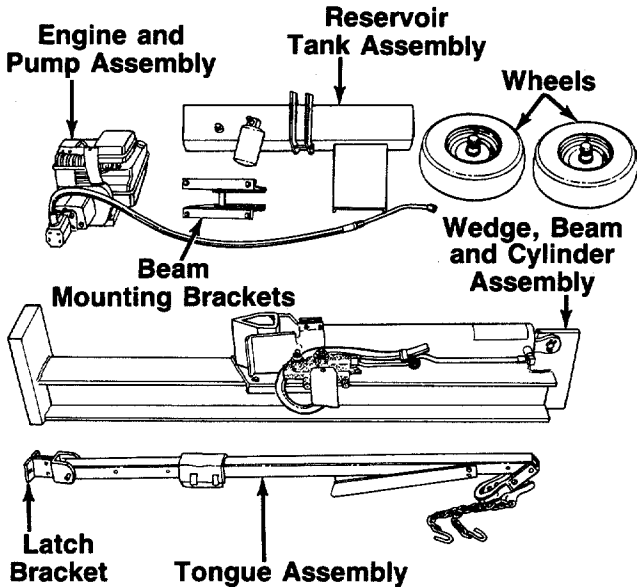

FIGURE 1.
### ← PARTS IN CARTON (See figure 1)
- Remove the latch bracket which has been assembled to the other end of the tongue for shipping purposes only by removing another quick release pin. Refer to figure 1. This bracket will be reassembled to the beam on page 7. Replace the quick release pin in the latch bracket.